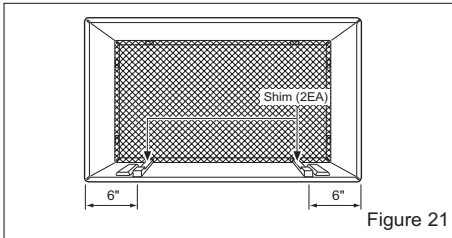

Figure 21
- 7 To achieve rearward slope for unit draining, remove the backing from the 11-13/16" shim strips and attach them as shown below in Figure 21. The higher portion of shim is to be placed in front of the rib on the base of wall sleeve.